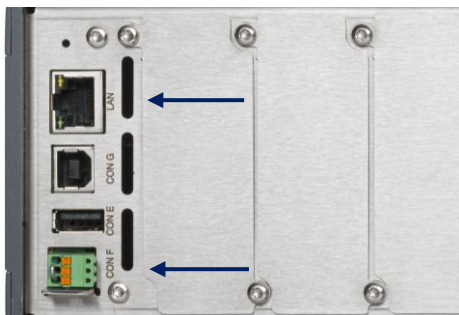

Figure 7.4: The location of the LAN-connector (top) and the Interlock connector (bottom) at the rear panel
- This connector is located at the rear side, marked as LAN see Figure 7.4.
- This connector is located at the rear side, marked as CON F, see Figure 7.4.
- The type-A (Host) connectors are located at the front panel near the display, and one at the rear panel (CON E), see Figure 7.4 and Figure 7.5.
- The type-B (Device) is located at the rear panel (CON G), see Figure 7.4.